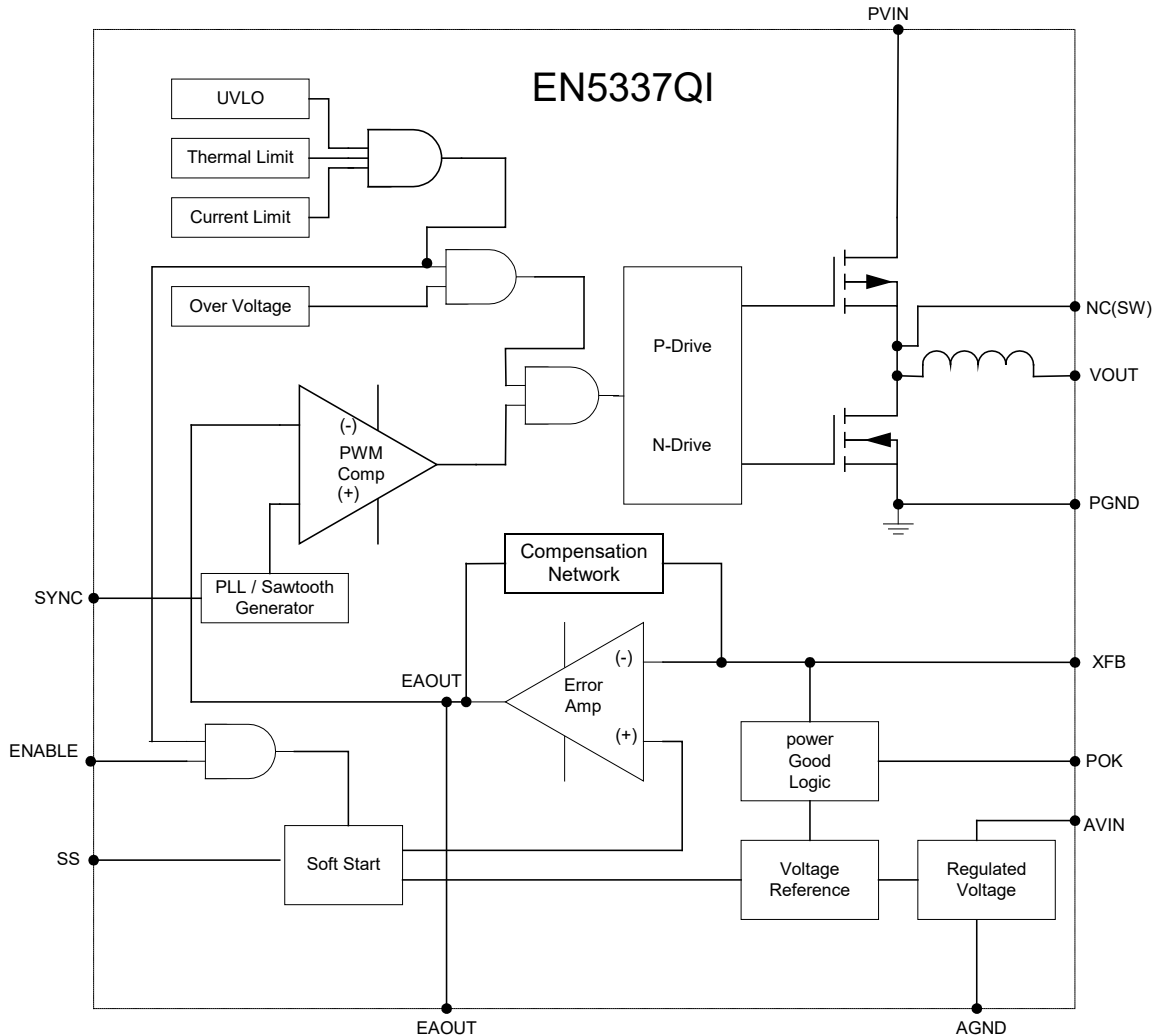

Figure 4. Functional Block Diagram
**Recommendation 2:** Three PGND pins are dedicated to the input circuit, and two to the output circuit. The slit in Figure 4 separating the input and output GND circuits helps minimize noise coupling between the converter input and output switching loops.
**Recommendation 5:** Multiple small vias (the same size as the thermal via discussed in recommendation 4) should be used to connect ground terminal of the input capacitor and output capacitors to the system ground plane. It is preferred to put these vias under the capacitors along the edge of the GND copper closest to the +V copper. Please see Figure 4. These vias connect the input/output filter capacitors to the GND plane, and help reduce parasitic inductances in the input and output current loops. If the vias cannot be placed under  $C_{IN}$  and  $C_{OUT}$ , then put them just outside the capacitors along the GND slit separating the two components. Do not use thermal reliefs or spokes to connect these vias to the ground plane.
**Recommendation 6:** AVIN is the power supply for the internal small-signal control circuits. It should be connected to the input voltage at a quiet point. In Figure 4 this connection is made at the input capacitor close to the  $V_{IN}$  connection.
**Recommendation 7:** The layer 1 metal under the device must not be more than shown in Figure 4. See the section regarding exposed metal on bottom of package. As with any switch-mode DC-DC converter, try not to run sensitive signal or control lines underneath the converter package on other layers.